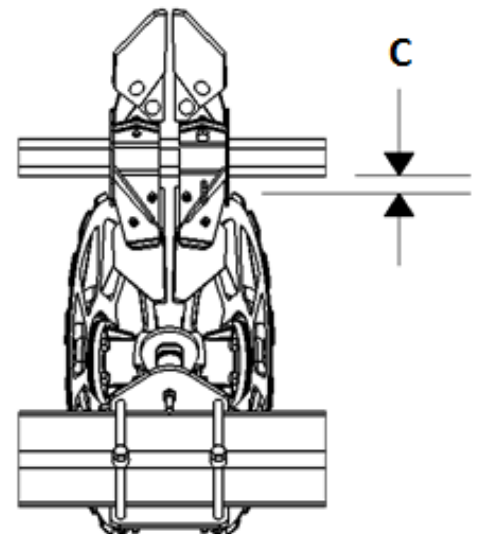

Figure 7-15: Paddle Shaft to Lifter Wheel Rim Dimension
CAUTION: When the harvester is equipped with rock struts, the distance (C), shown in figure 7-15, between the lifter wheels and paddle shaft must have at least 1 inch. (2.5 cm) of clearance to protect the paddle shaft from the lifter wheels in the event of contact with a rock.